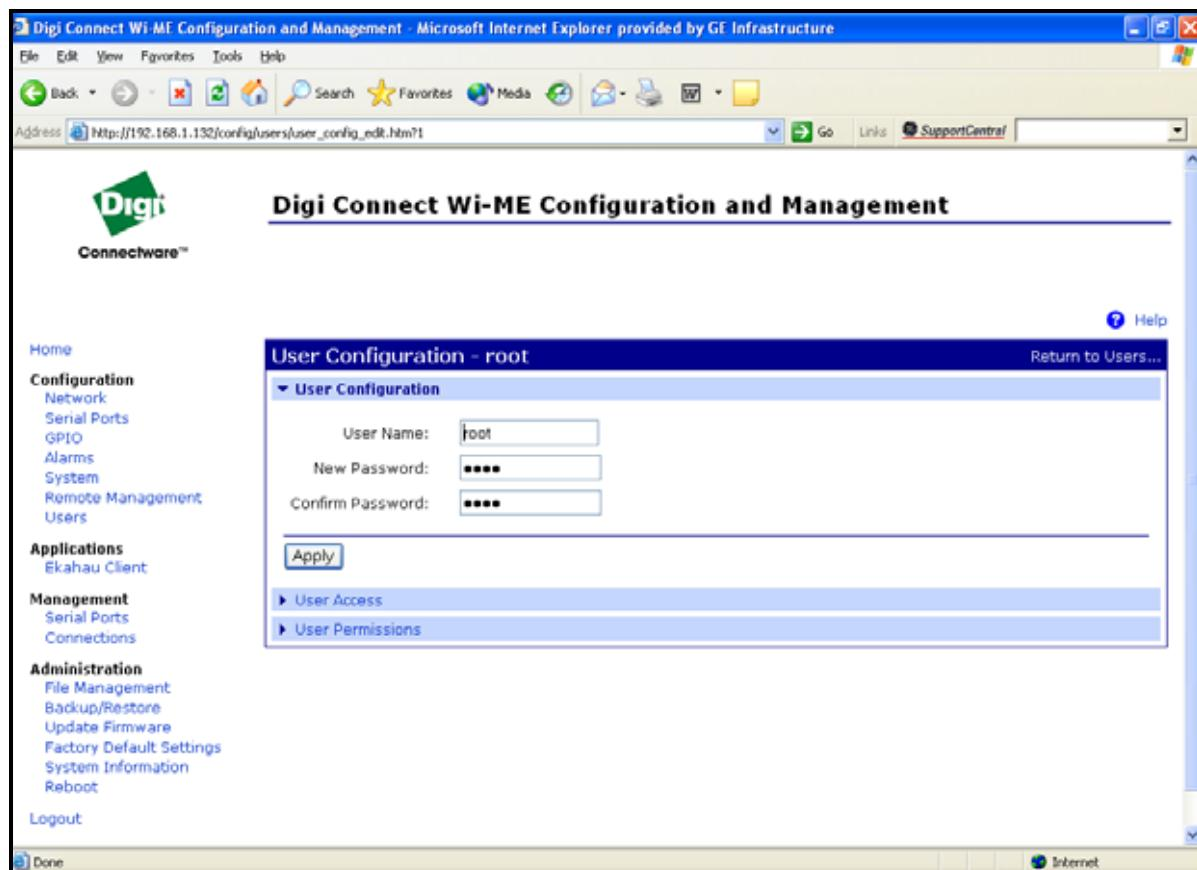

Figure 44: Changing the User Name and/or Password
5. Click on **New....** Figure 44 on page 59 appears.